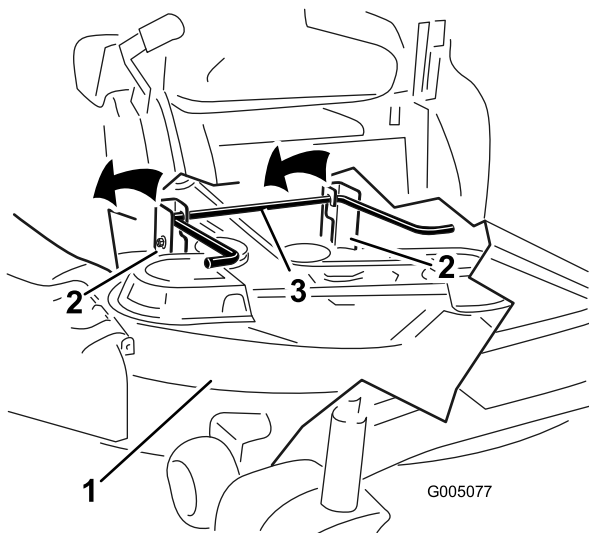
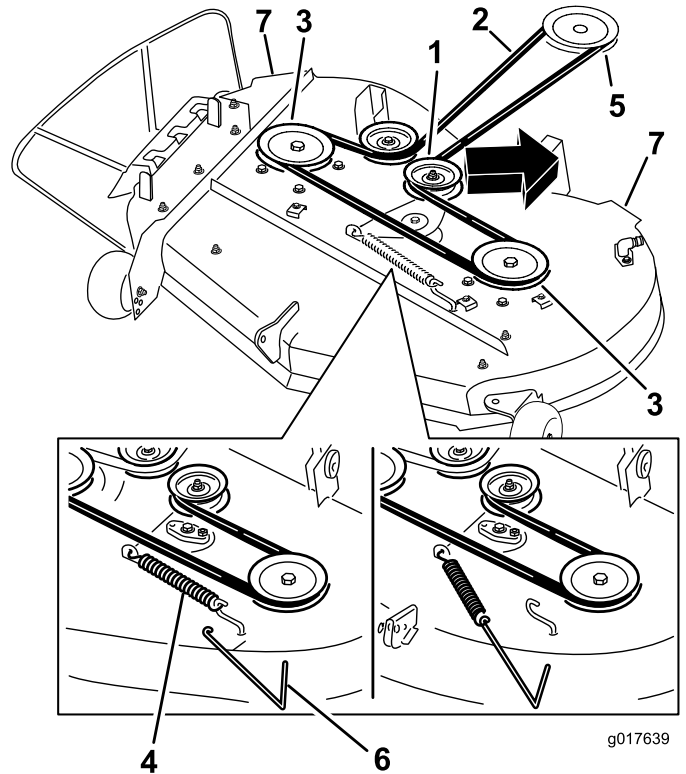

Figure 55
Figure 56
5. Using the mower deck handles, lift the mower deck and hanger brackets clear of the rear lift rod and lower the mower carefully to the ground (Figure 55 and Figure 56).
4. Using a spring removal tool, (Toro part no. 92-5771), remove the idler spring from the deck hook to remove tension on the idler pulley and roll the belt off of the pulleys (Figure 56).
5. Route the new belt around the engine pulley and mower pulleys (Figure 56).
6. Using a spring removal tool, (Toro part no. 92-5771), install the idler spring over the deck hook and placing tension on the idler pulley and mower belt (Figure 56).
5. Lift the rear of the mower deck and guide the hanger brackets over the rear lift rod (Figure 55).